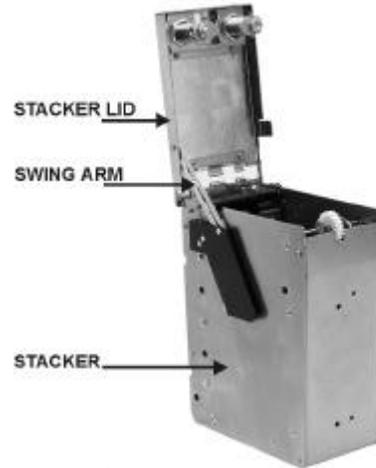

Figure 3-5
- * NOTE: Even though the swing arm of the stacker (Figure 3-5) prevents lid over travel; observe the precautions outlined above for proper handling of stackers.